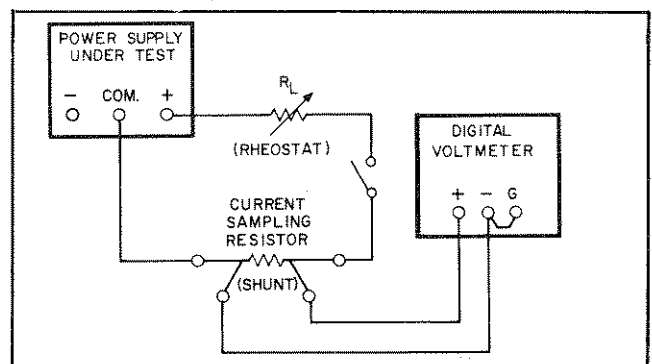

Figure 5-3. Output Current, Test Setup
f. Connect the test setup shown in Figure 5-3 to the +6V (or +18V) output. Make the total resistance of  $R_L$  and the current sampling resistor 2.4 ohms for the Model 6236A (or 18 ohms for the 6237A) to permit operating the output at full load.  $R_L$  should have a power rating of at least 20 watts.
j. Check the rated output and ammeter accuracy of the +20V and -20V supplies similarly by connecting the test setup of Figure 5-3 to each output in turn. For each 20V supply: make the total resistance of  $R_L$  and the current sampling resistor 40 ohms, set the  $\pm 20V$  VOLTAGE control for a current indication on the DVM of 0.5A, check that the panel meter indication is within 4% of 0.5A, connect the DVM to the fully loaded output terminals, and compare the output voltage before and after the load circuit is opened. The voltage should not change by more than 4mV. While checking each supply, the other two must be fully loaded.
l. Connect the test setup shown in Figure 5-3 to the +20-volt output. Substitute a short for  $R_L$  and leave the load circuit switch open.
q. (Steps (q) through (s) apply to the 6236A only.) Connect the test setup shown in Figure 5-3 to the +6V output. Close the switch, set the total resistance of  $R_L$  and the current sampling resistor to an initial value of 2.4 ohms or greater, and set the output voltage to 6 volts.